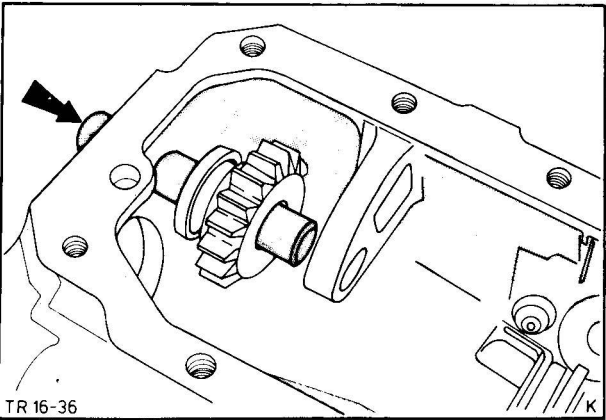

Fig. 51. Fit reverse idler gear
41. Fit reverse idler gear with selector groove to the rear. Insert shaft and tap in with copper hammer until about 0,2 to 0,8 mm countersunk, Fig. 51. First grease shaft with multi-purpose grease G3-7140.